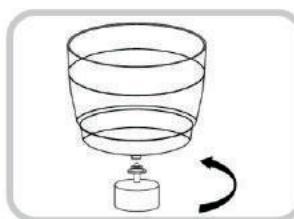
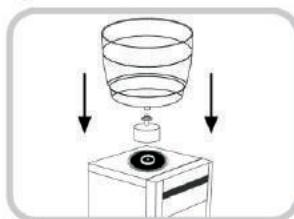

Fig.6
Fig.7
2. Screw on the Floating Valve to the bottom of the Lower Barrel (Fig. 6). Place the Lower Barrel with the Floating Valve attached on top of the water dispenser. Make sure the Lower Barrel sits properly level and secure on top of the water dispenser. Once the Floating Valve is attached to the Lower Barrel, it will remain suspended inside the water dispenser. (Fig. 7).